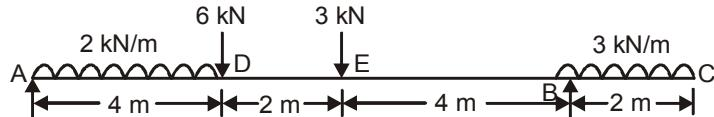

Fig. 2
- (c) Draw the shear force and bending moment diagrams for the beam shown in fig. 2 (20)